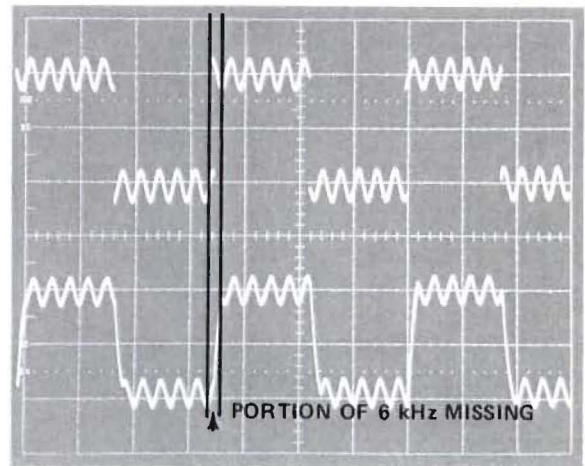

Figure 51 TIM Display in the Time Domain
2. Temporarily bypass the amplifier and set up the generator levels in a voltage ratio of about 5:1. Then carefully adjust the frequency of the 6 kHz generator until a stationary pattern is obtained similar to the top trace in Figure 51.
4. One of the characteristics of TIM may appear on the oscilloscope display as in the lower trace of Figure 51. This display shows a temporary "swamping" of the 6 kHz tone immediately after the 500 Hz transition.